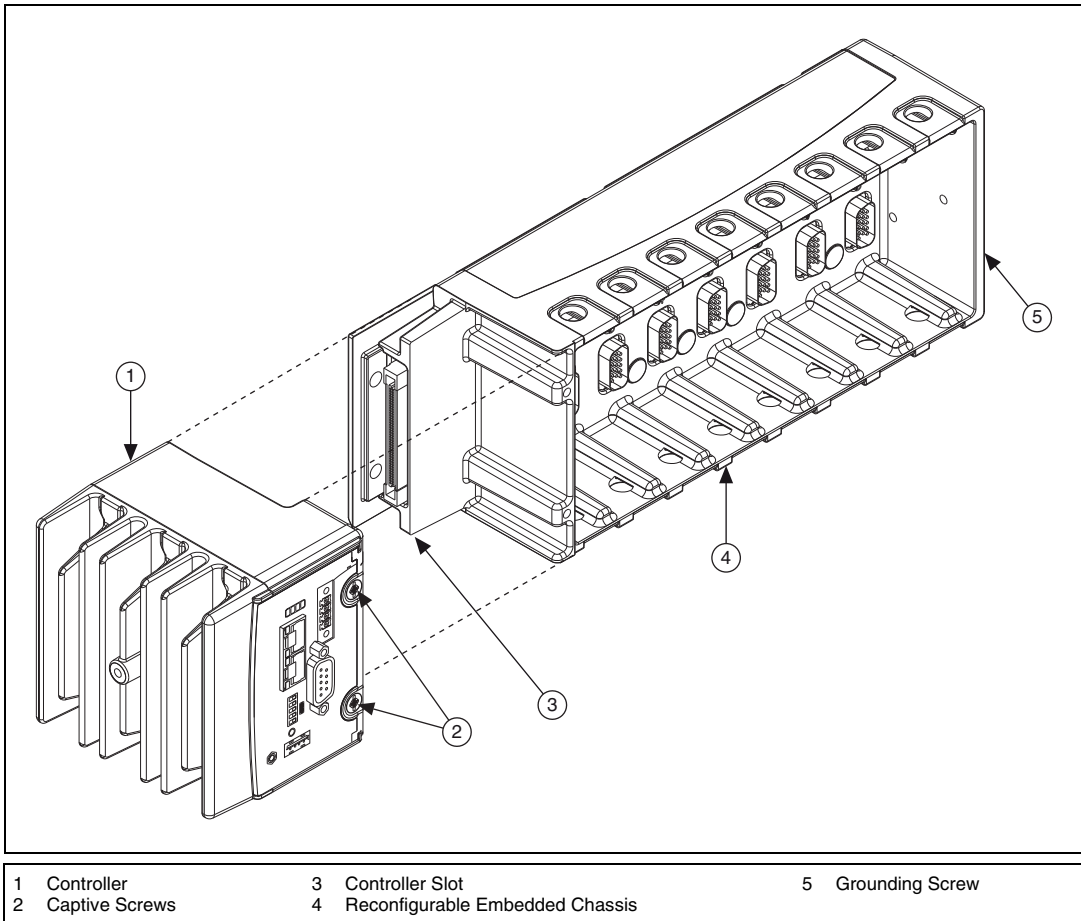

Figure 6. Installing the Controller on the Chassis (Eight-Slot Chassis Shown)
- b. Align the controller with the chassis as shown in Figure 6.